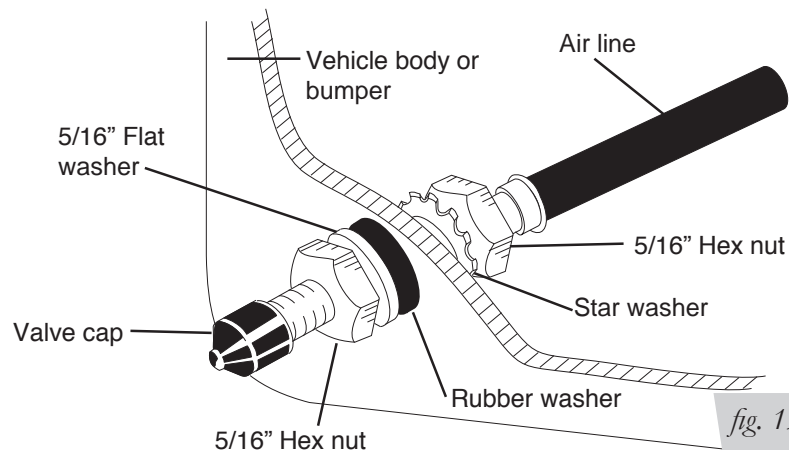

fig. 19
4. Place a 5/16" nut and star washer on the air valve. Leave enough of the inflation valve in front of the nut to extend through the hole and have room for the rubber washer, flat washer, and 5/16" nut and cap. There should be enough valve exposed after installation—approximately 1/2"— to easily apply a pressure gauge or an air chuck (fig. 19).